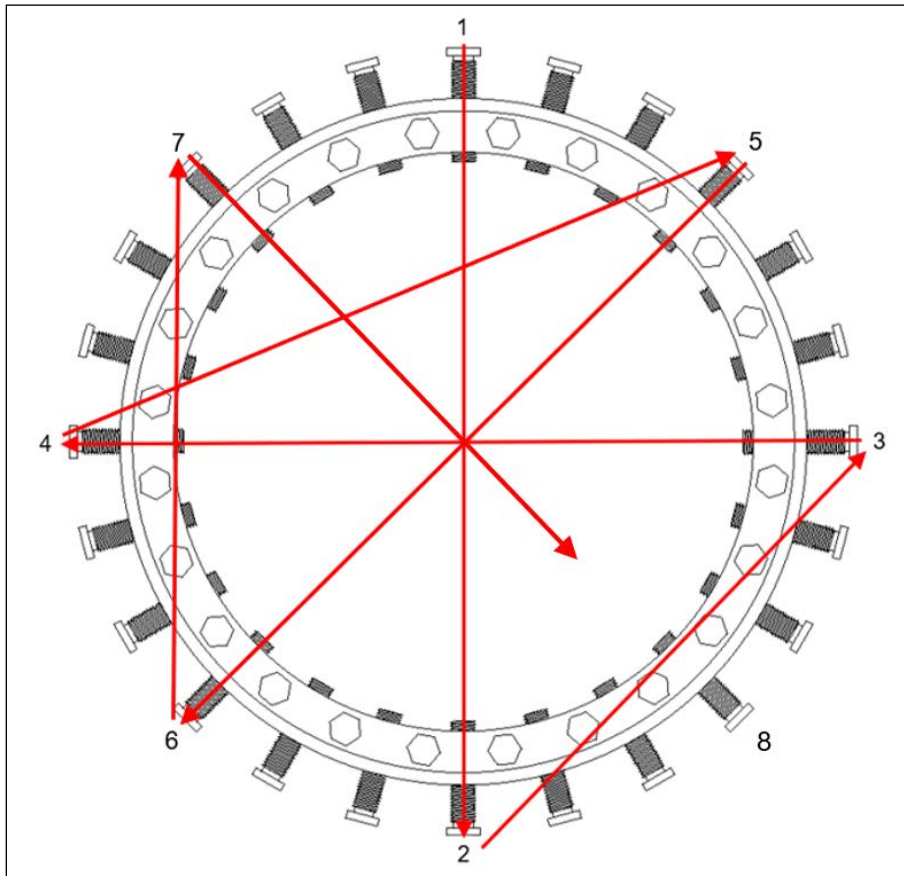
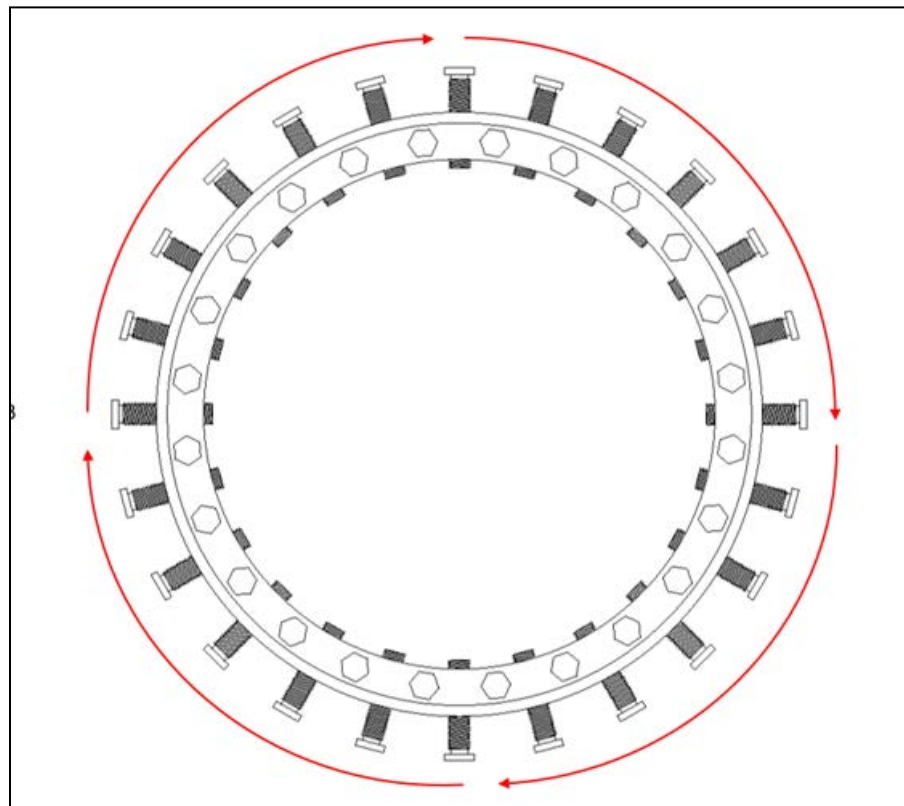

Figure 3
Figure 4
7. Clamp screws must be tightened evenly, while maintaining an equal space between the pipe and the fitting using the recommended torque values. Tighten the clamp screws one at a time (torque values in Table 3) in a repeated sequence that matches Figure 3. The first time through the sequence, tighten the screws to 25% of the minimum torque. The second time through, tighten the screws to 50% minimum torque. The third time through, tighten the screws at 100% torque. Then, follow a circular tightening sequence that matches Figure 4, at 100% torque, until the Clamp Screws are unable to continue spinning. Once this is achieved, the next set of clamp screws on the other side of the PLIDCO Weld+Ends can be tightened using this same procedure.